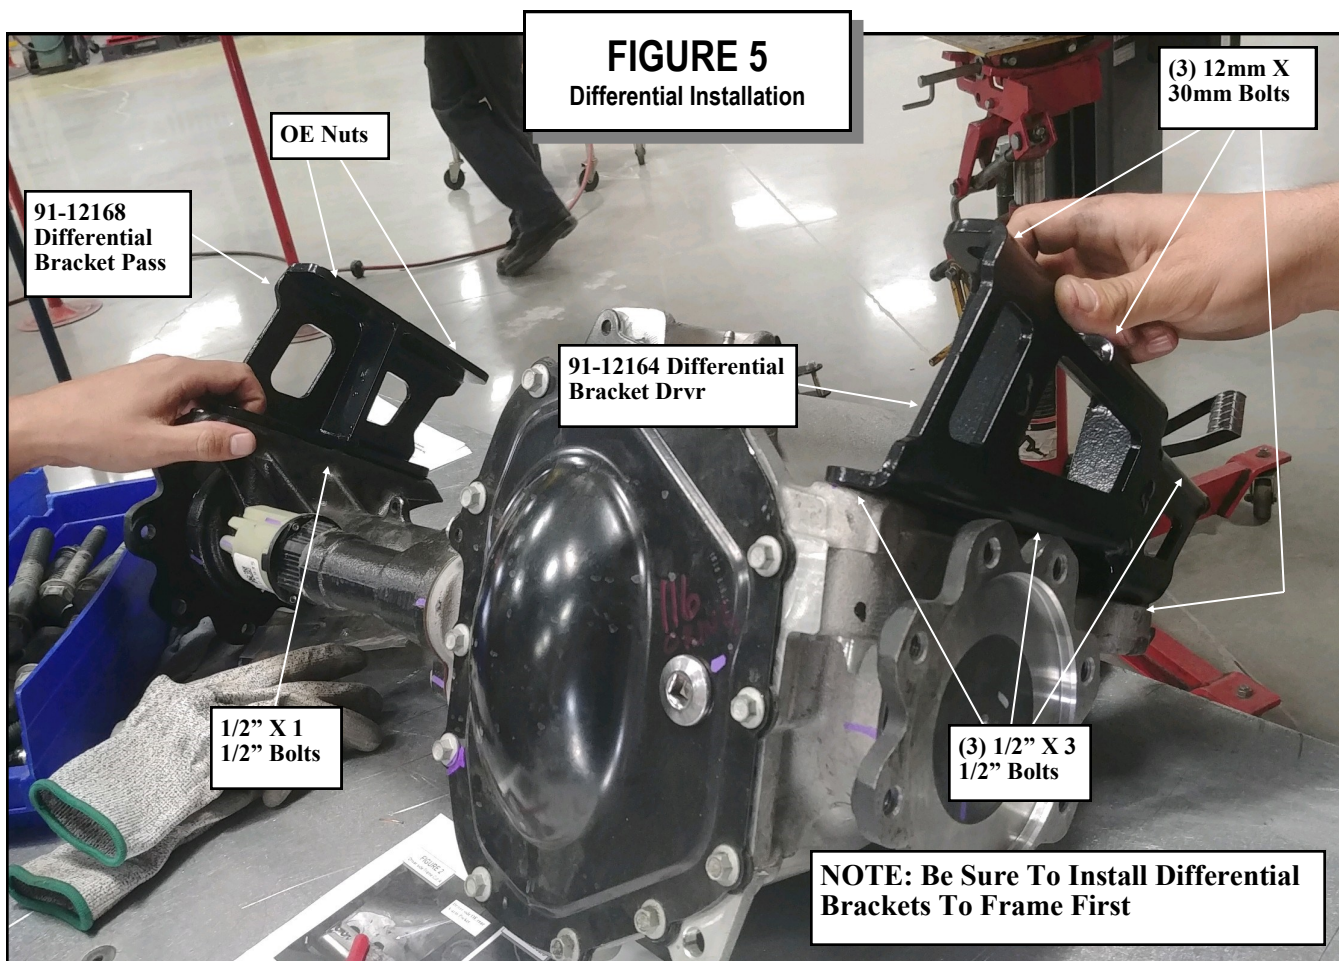

FIGURE 5
pack (**90-6784**). Secure the rear bolt hole by inserting the (**1**) **1/2" X 3 1/2"** bolt and hardware from hardware pack (**90-6784**). Insert the bolts from the top of the **OE** diff bracket. See FIGURE 5.
34. Install the passenger side differential bracket (**91-12168**) to the bottom of the **OE** frame mounting studs using the previously removed **OE** nuts. See FIGURE 5.
36. Carefully raise the differential into position and secure it to the driver side drop bracket using the supplied **1/2" X 3 1/2"** bolts and hardware in the front (**2**) holes and the **12mm X 30mm** bolt and hardware from hardware pack (**90-6784**) in the rear hole. See FIGURE 5.
37. Secure the differential to the passenger side drop bracket using the (2) supplied 1/2" X 1 1/2" bolts and hardware from hardware pack (90-6784). See FIGURE 5.